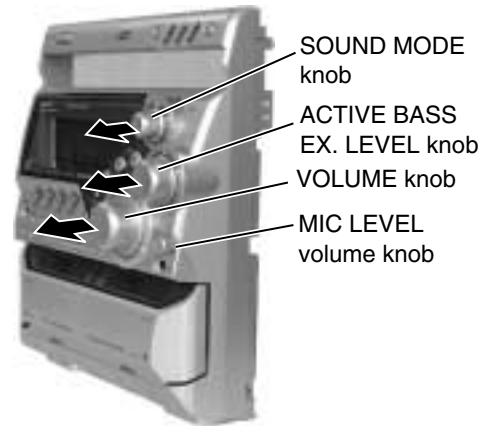
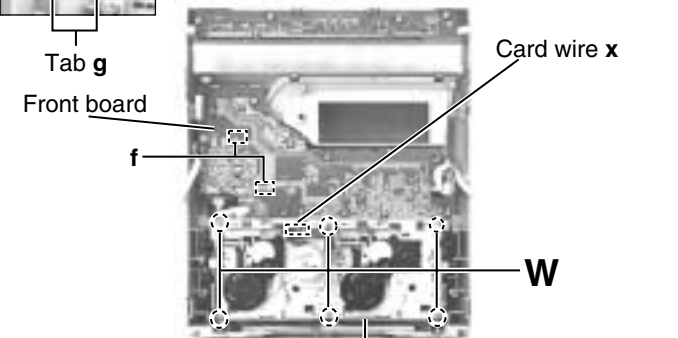

Fig.23
Fig.25
■Removing the front board (See Fig.23 to Fig.25)
■Removing the cassette mechanism assembly (See Fig.25)